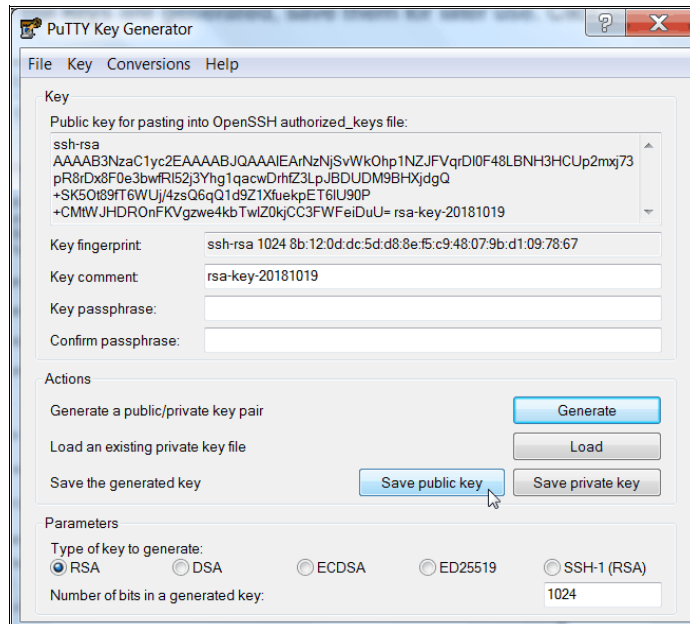

Figure A-4 Save public key
3. After the keys are generated, save them for later use. Click **Save public key** (see Figure A-4).